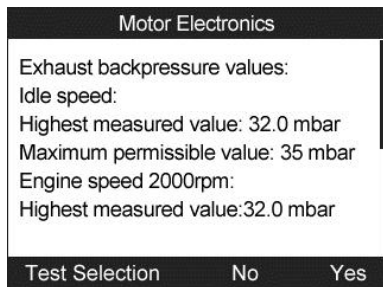

Figure 13-46
- f) The tool will submit a summary report for your confirmation. (Figure 13-46)